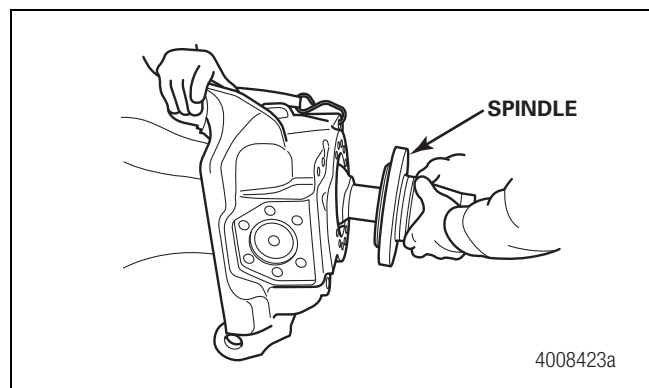

Figure 4.2
1. Remove the mounting bolts from the spindle. Remove the spindle from the knuckle. Figure 4.2.